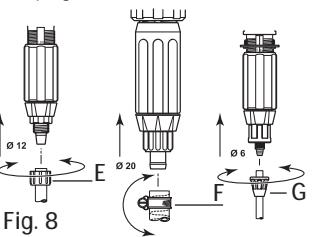

Fig. 8
- Unscrew the nut (Fig. 8-E) at the bottom of the injection assembly and put it onto the tube.
- Unscrew the nut (Fig. 8-G) at the bottom of the injection assembly and put it onto the tube.
- Loose the clamp (Fig. 8-F) holding the suction hose by means of a screw-driver.